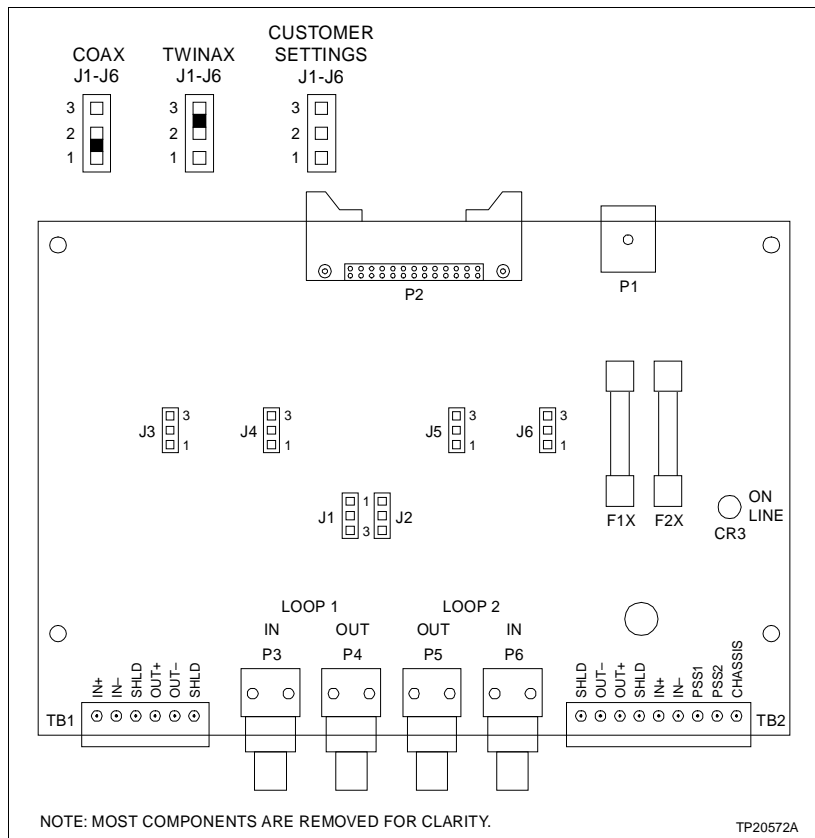

Figure PR14-2. Loop TU Circuit Board
- 4. Remove the INFI-NET cables from the LOOP 1 connectors and install them on the LOOP 1 connectors on the new loop TU circuit board (Fig. PR14-2).